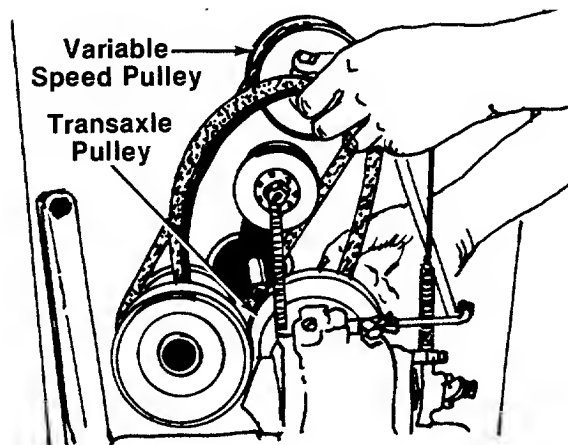

FIGURE 32.
8. Slip the "V"-belt off the variable speed pulley and transaxle pulley. See figure 32.